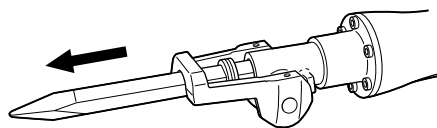

Fig. 4
(3) Clamp the accessory into place by bringing the retainer to the clamp position. To make sure that the accessory is properly mounted, pull on the accessory (Fig. 4).